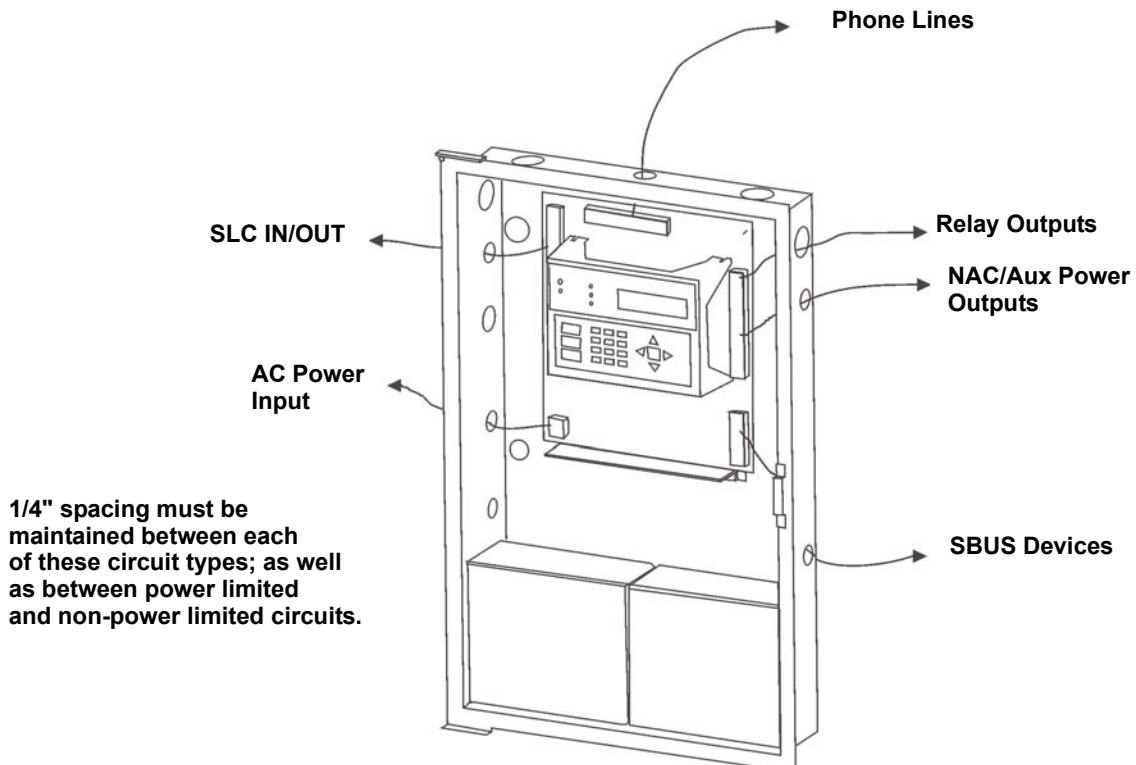

Figure 3-1 Wire Routing Example
- i Route the wiring around the inside perimeter of the cabinet. It should not cross the circuit board where it could induce noise into the sensitive microelectronics or pick up unwanted RF noise from the high speed circuits. See Figure 3-1 for an example.